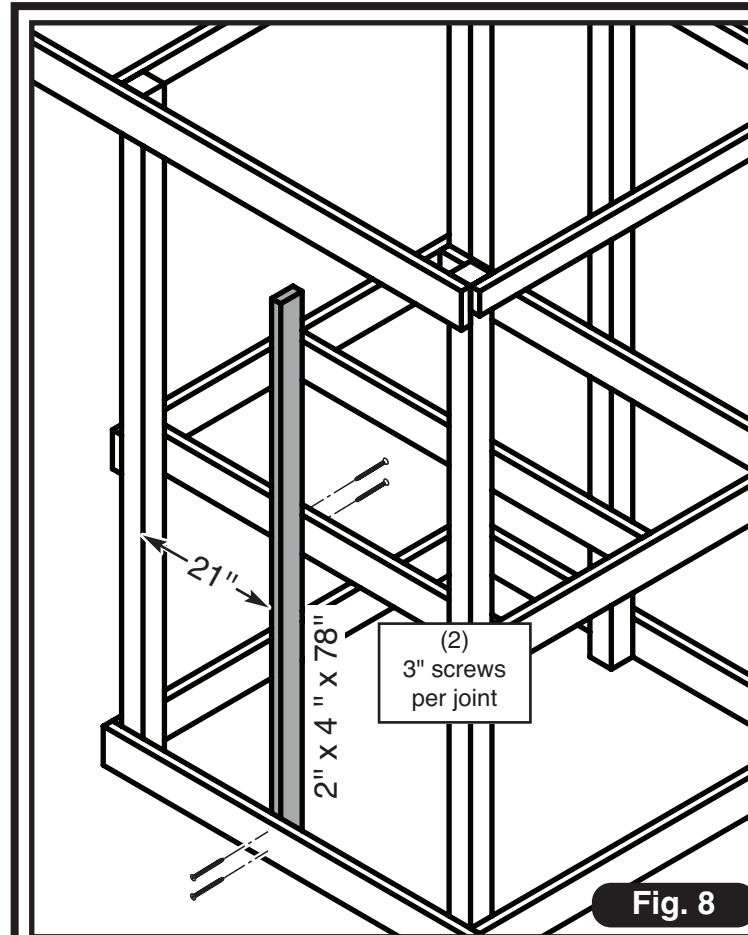

Fig. 8
1. Install 2" x 4" x 78" Ladder Support Board as shown in (Fig. 8).